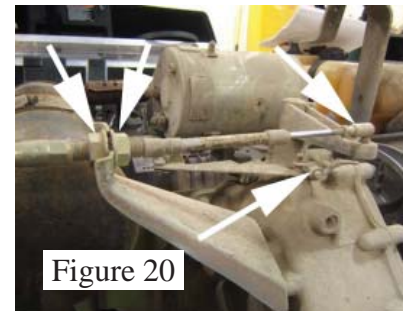

Figure 20
17. Loosen the 3/4" jam nuts holding the shifter cable to the transaxle. Disconnect the shifter cable from the transmission and set aside. Loosen the clamp holding the governor linkage on the transaxle. (See Figure 20).